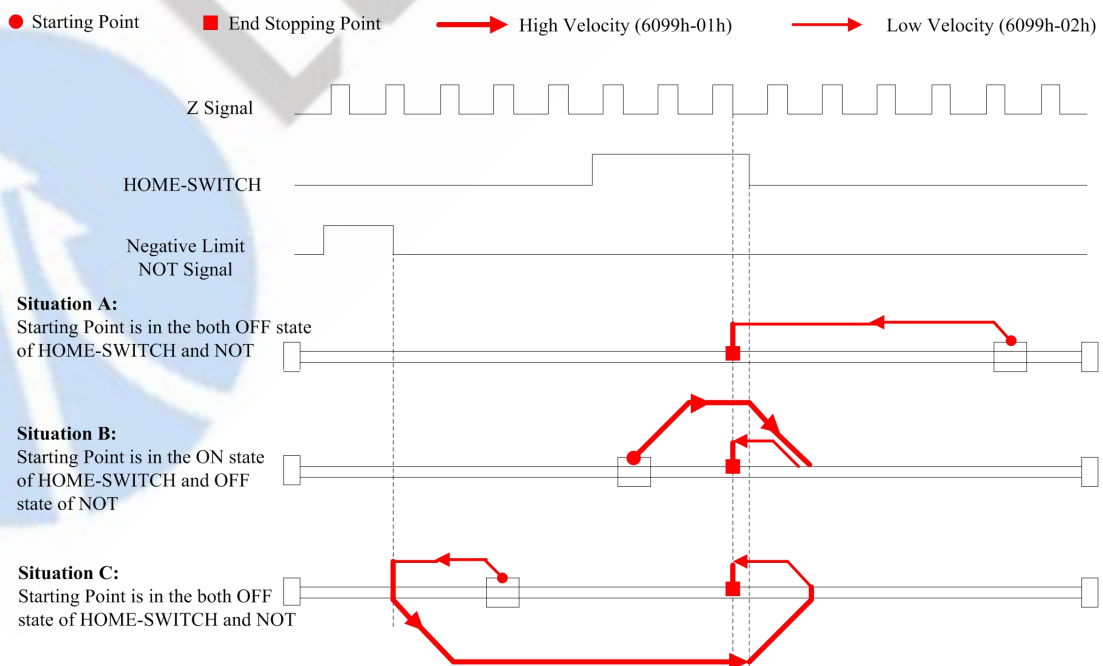

Figure 7-12 Method 12
- If the motor starting point is in the OFF state of HOME-SWITCH and Negative Limit, it will move toward negative direction at Low Homing Velocity (6099-02h), and the motion stops at the first effective Z signal during the ON state of HOME-SWITCH, as shown in Situation A of Figure 7-12.
- If the motor starting point is in the ON state of HOME-SWITCH and OFF state of Negative Limit, it will move toward positive direction at Fast Homing Velocity (6099-01h) and have a deceleration stop after leaving HOME-SWITCH, then move toward negative direction at Low Homing Velocity, the motion stops at the first effective Z signal during the ON state of HOME-SWITCH, as shown in Situation B of Figure 7-12.
- If the motor starting point is in the ON state of HOME-SWITCH and OFF state of Negative Limit, it will move toward negative direction at Fast Homing Velocity (6099-01h) and have a deceleration stop after leaving HOME-SWITCH, then move toward positive direction at Low Homing Velocity, the motion stops at the first effective Z signal during the ON state of HOME-SWITCH, as shown in Situation B of Figure 7-12.
- If the motor starting point is in the ON state of HOME-SWITCH and OFF state of Negative Limit, it will move toward negative direction at Low Homing Velocity (6099-02h) and the motion stops at the first effective Z signal during the OFF state of HOME-SWITCH, as shown in Situation B of Figure 7-12.